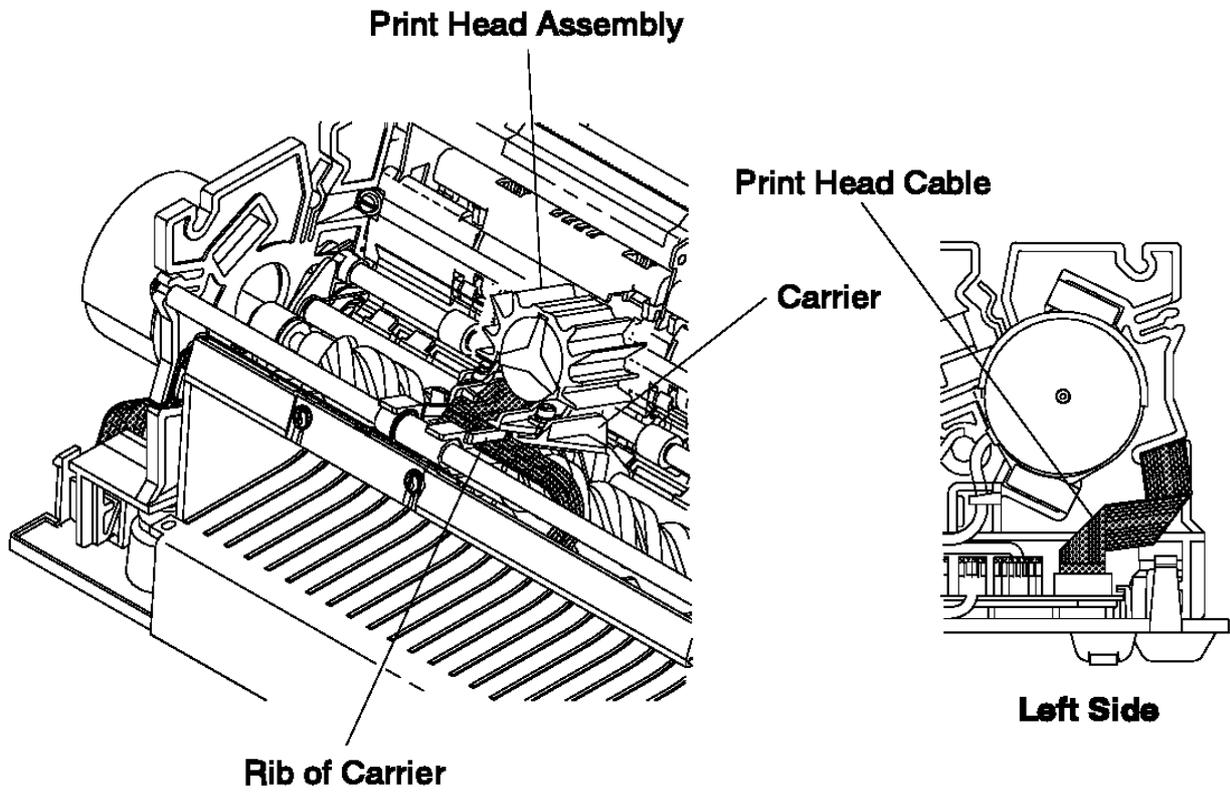

Figure 6-57. Print Head Cable Routing
5. Tuck the print head cable under the rib on the carrier and move the carrier to the right side of the printer. See Figure 6-57. Slide the cable under the home sensor card assembly and then route it through the left side frame. The 90 degree bend in the cable should be flush with the slot in the left side frame.